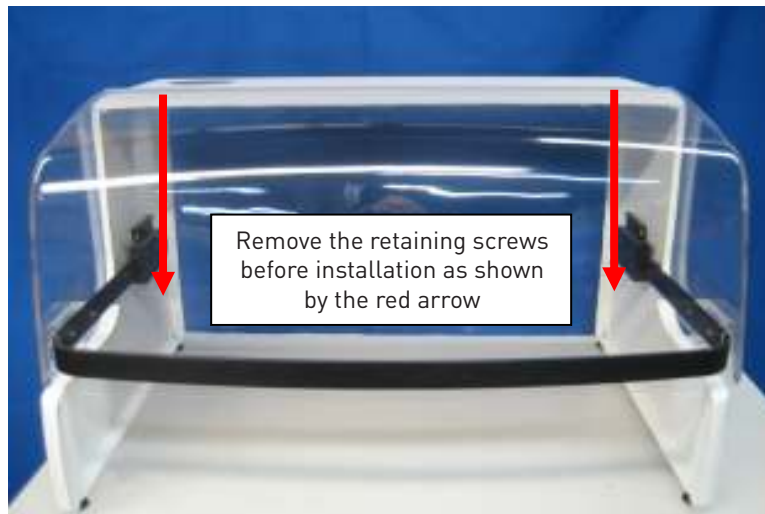

Figure 14
- Two retaining screws are holding the fume shield down during shipping (Figure 14). These screws must be removed before the fume shield is installed over the unit (Figure 15).